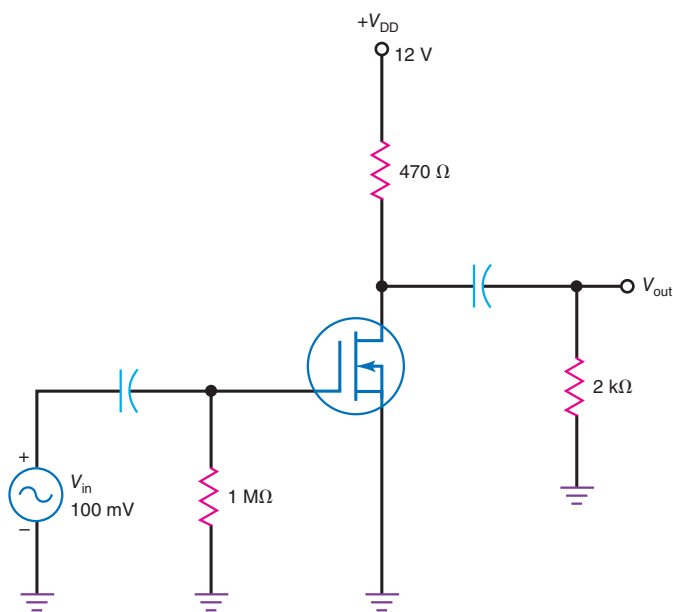

Figure 32-55
32.18 The D-MOSFET in Fig. 32-55 has $V_{GS(off)} = -3\text{ V}$ and $I_{DSS} = 12\text{ mA}$. Determine the circuit's drain current and V_{DS} values.
32.19 In Fig. 32-55, what are the values of r_d , A_v , and V_{out} using a g_{mo} of $4000\ \mu\text{S}$?
32.20 What is the approximate input impedance of Fig. 32-55?